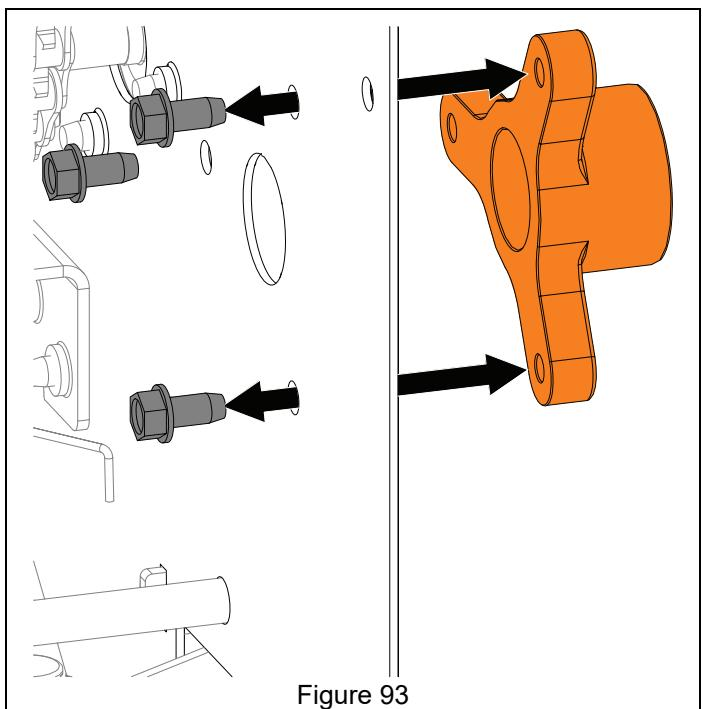

Figure 93
11. Remove tapping screws securing axle bushing to frame and remove bushing. See Figure 93.